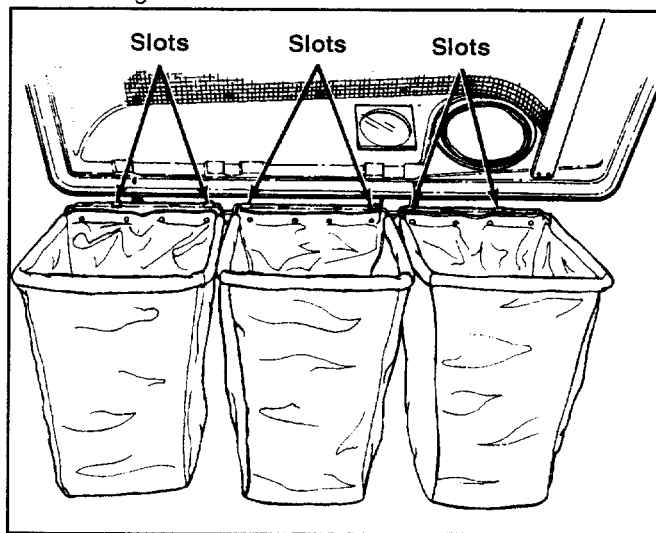

Figure 3
- Attach the grass bags using the slots. See Figure 3.